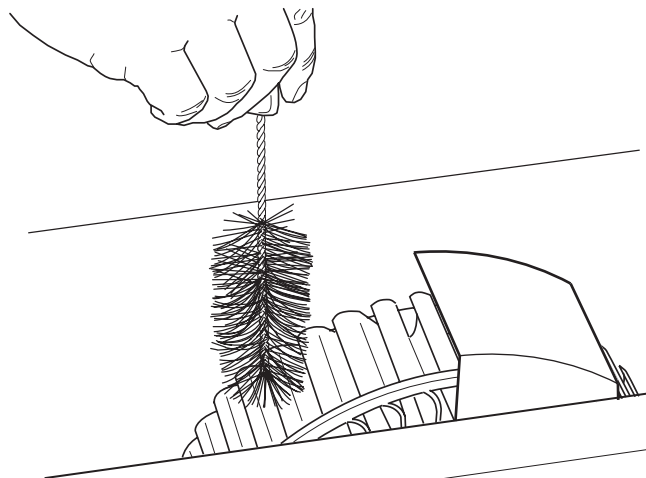

FIGURE 30 — CLEANING INDOOR FAN AND FAN SCROLL
2. Bend a soft, spiral wound, long bristle brush, to conform to the inner curve of the blower wheel blades. See Figure 30.